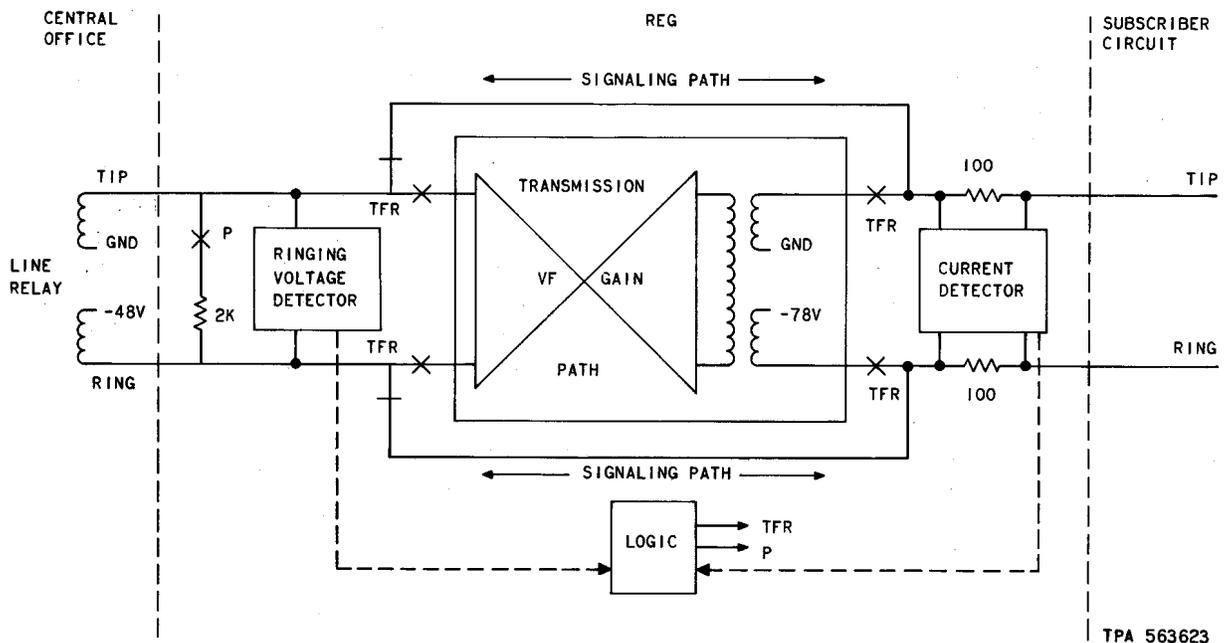

Fig. 15—Range Extender Circuit Showing Transmission and Signaling Paths
- (c) Fig. 15—added.
5.74 The Range Extender with Voice Frequency Gain (REG) is of solid state design with both the signaling and transmission circuits housed in a single plug-in module. Twelve of these modules plug into a shelf which fits standard 23-inch racks. The REG (Fig. 15) is located between the subscriber line circuit appearance at distributing frames in a
5.76 Figure 15 shows how tip and ring are connected straight through the REG in the signaling mode when the transfer (TFR) relay is in its normal position. The loop current and the voltage between tip and ring are monitored by current and voltage detectors whose shunt resistances are very high. The two 100-ohm series resistors in the loop current detector represent a small fraction of the total loop resistance. These series resistors are used as part of both the loop current detector and the line build-out (LBO) network. The LBO network provides a means of extending the subscriber loop end-section by providing the proper impedance match for the repeater. The LBO settings are made on a prescription basis. This eliminates the need for a gain or return loss measurement on the transmission circuit.
5.79 In the transmission mode, the REG provides 2-way voice frequency amplification by means of a negative impedance amplifier. Fig. 15 shows how the voice frequency gain unit is inserted into the loop when the TFR relay is operated. The gain unit remains in the loop during dialing and talking if the subscriber has a TOUCH-TONE dial. The voice frequency repeater is powered by the -48 volt talking battery in the central office during voice transmission. Each REG unit draws approximately 30mA from the -48 volt talking battery. To bring the subscriber loop current into the range specified to power the station transmitter, the REG is furnished with an additional -48 volt dc input. Each REG unit draws 10 mA at idle and 30mA in operation from this second -48 volt supply. The additional voltage of the -48 volt dc input powers the REG logic and the supplemental